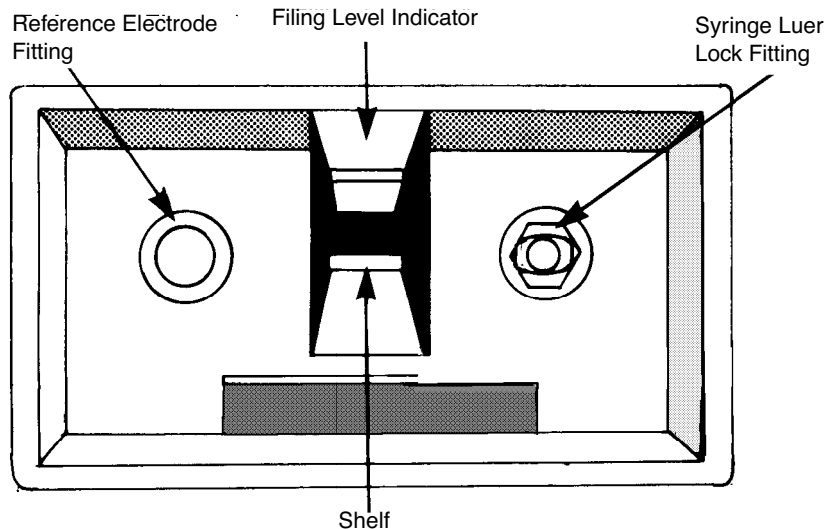

Figure 3-7: Liquid Level Indicator in the Reader
- 4) Check the level of liquid in the Reader by looking into the liquid level indicator on the top center of the Reader. The liquid should be just above the shelf in the indicator cavity (Figure 3-7).